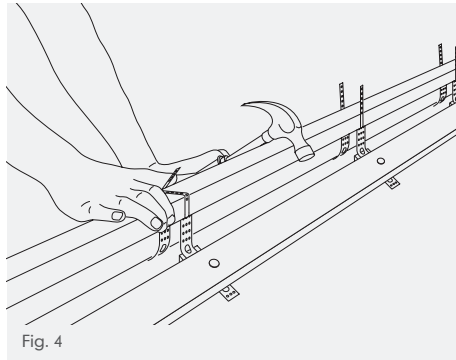

Fig. 4
- 3 Place the ridge batten(s) along length of ridge between the perforated straps of ridge batten brackets. Bend over the straps and nail each securely to the ridge batten using the nails supplied. Joints in ridge batten should be made half way across a ridge batten bracket to ensure the ends are secured (Fig. 4).